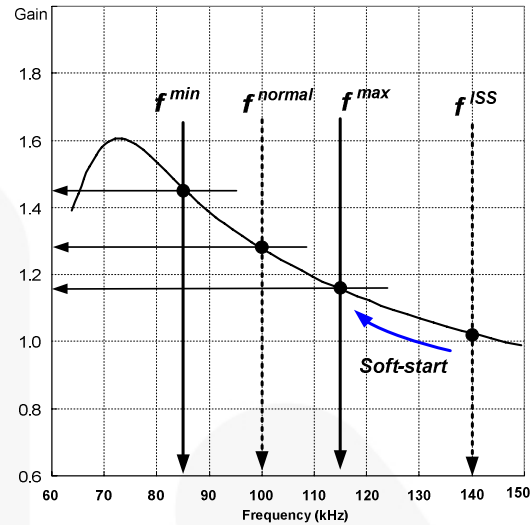
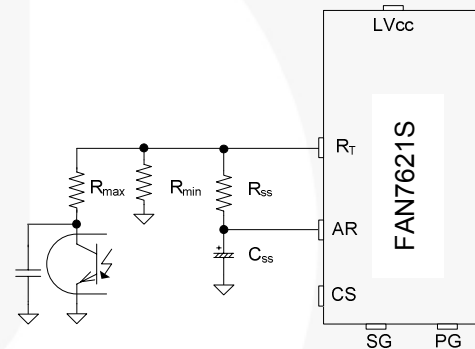
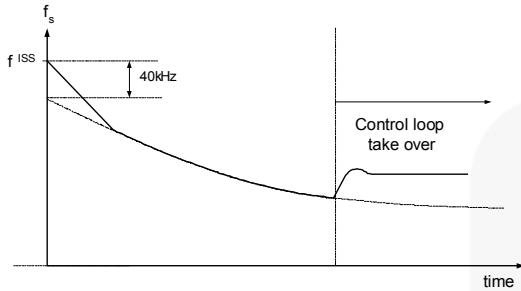

Figure 17. Resonant Converter Typical Gain Curve
Figure 18. Frequency Control Circuit
Figure 19. Frequency Sweeping of Soft-Start
3. Frequency Setting: Figure 17 shows the typical voltage gain curve of a resonant converter, where the gain is inversely proportional to the switching frequency in the ZVS region. The output voltage can be regulated by modulating the switching frequency. Figure 18 shows the typical circuit configuration for R_T pin, where the opto-coupler transistor is connected to the R_T pin to modulate the switching frequency.
To prevent excessive inrush current and overshoot of output voltage during startup, increase the voltage gain of the resonant converter progressively. Since the voltage gain of the resonant converter is inversely proportional to the switching frequency, the soft-start is implemented by sweeping down the switching frequency from an initial high frequency (f^{SS}) until the output voltage is established. The soft-start circuit is made by connecting R-C series network on the R_T pin, as shown in Figure 18. FAN7621S also has an internal soft-start of 3ms to reduce the current overshoot during the initial cycles, which adds 40kHz to the initial frequency of the external soft-start circuit, as shown in Figure 19. The initial frequency of the soft-start is given as: